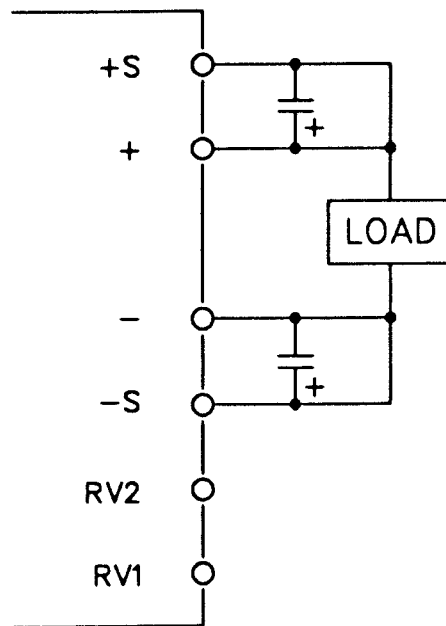

FIGURE 5 THE FPD 50-12 DC TO DC CONVERTER WITH REMOTE SENSING AND FIXED OUTPUT VOLTAGE
**NOTE:** If long sense wires are used it is recommended to place a 100 $\mu$ F (or more) electrolytic capacitor between the (+) and (+S) terminals and between the (-) and (-S) terminals to reduce possible oscillations of the output voltage (see Figure 5).
**NOTE:** For a fixed output voltage (see Figure 5) do not connect any resistors to the (RV1) and (RV2) terminals.